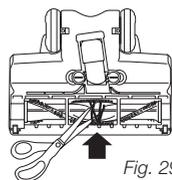

Fig. 29
- 3 Remove any string, carpet fibers or hair that may be wrapped around the brushroll. (Fig. 29)